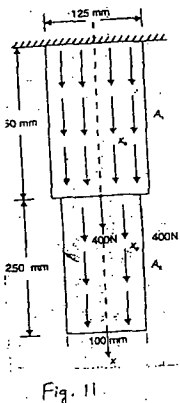

Fig. 11
11. The thin plate of uniform thickness 20 mm, is as shown in Figure 11. In addition to the self weight, the plate is subjected to a point load of 400 N at mid-depth. The young's modulus $E = 2 \times 10^5 \text{ N/mm}^2$ and unit weight $p = 0.8 \times 10^{-4} \text{ N/mm}^2$. Analyse the plate after modeling it with two elements and find the stresses in each elements. Determine the support reactions also. 16